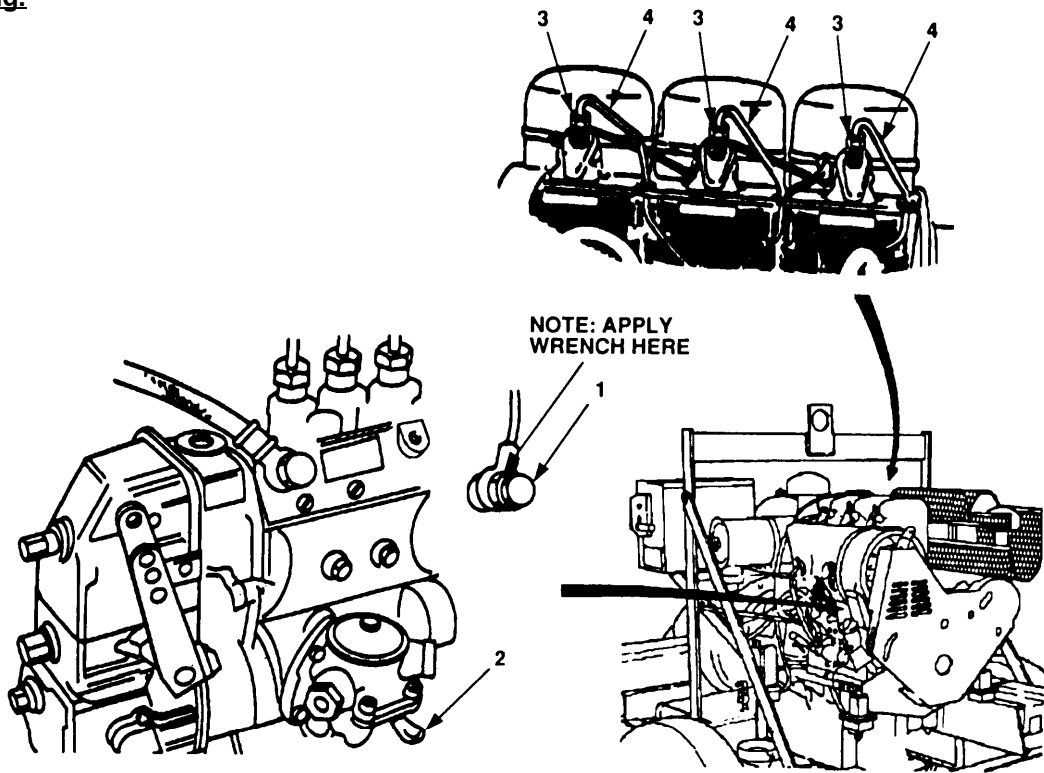

Figure 4-26 Bleeding Fuel Lines.
a. Bleed Fuel System (figure 4-26) as follows:
(1) Loosen overflow valve (1) by two or three turns.
(2) If fuel feed pump lever (2) does not have resistance while pressing down on fuel feed pump lever, rotate engine 180°.
(3) Operate fuel feed pump lever (2) by pressing down until fuel, free of air bubbles, emerges at the loosened overflow valve (1).
- a. Remove banjo bolt (figure 4-26, 1), washer (2), hose (3) and washer (4). Place hose (3) out of the way.
- b. Remove banjo bolt (5) and washers (6), and place hose (7) out of the way.
- c. Remove three nuts (8) and lockwashers (9); then carefully remove fuel feed pump (10) and preformed packing (11).
- a. Remove bolt (12), washer (13), cover (14), and gasket (15).
- b. Remove strainer (16) from fuel feed pump (10).
- c. Using clean fuel, thoroughly clean strainer (16).
- d. Install strainer (16) in fuel feed pump (10).
- e. Install gasket (15) and cover (14).
- f. Install washer (13) and bolt (12).